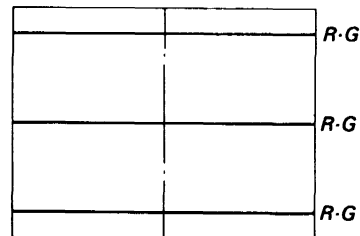

Fig. 3-44
- (18) Adjust RV5537 (V SUB BOW (R)) finely so that the red horizontal lines coincide with the green horizontal lines as shown in Fig. 3-44.
- (19) When the mis-registration appears on the screen, perform the necessary adjustment finely.